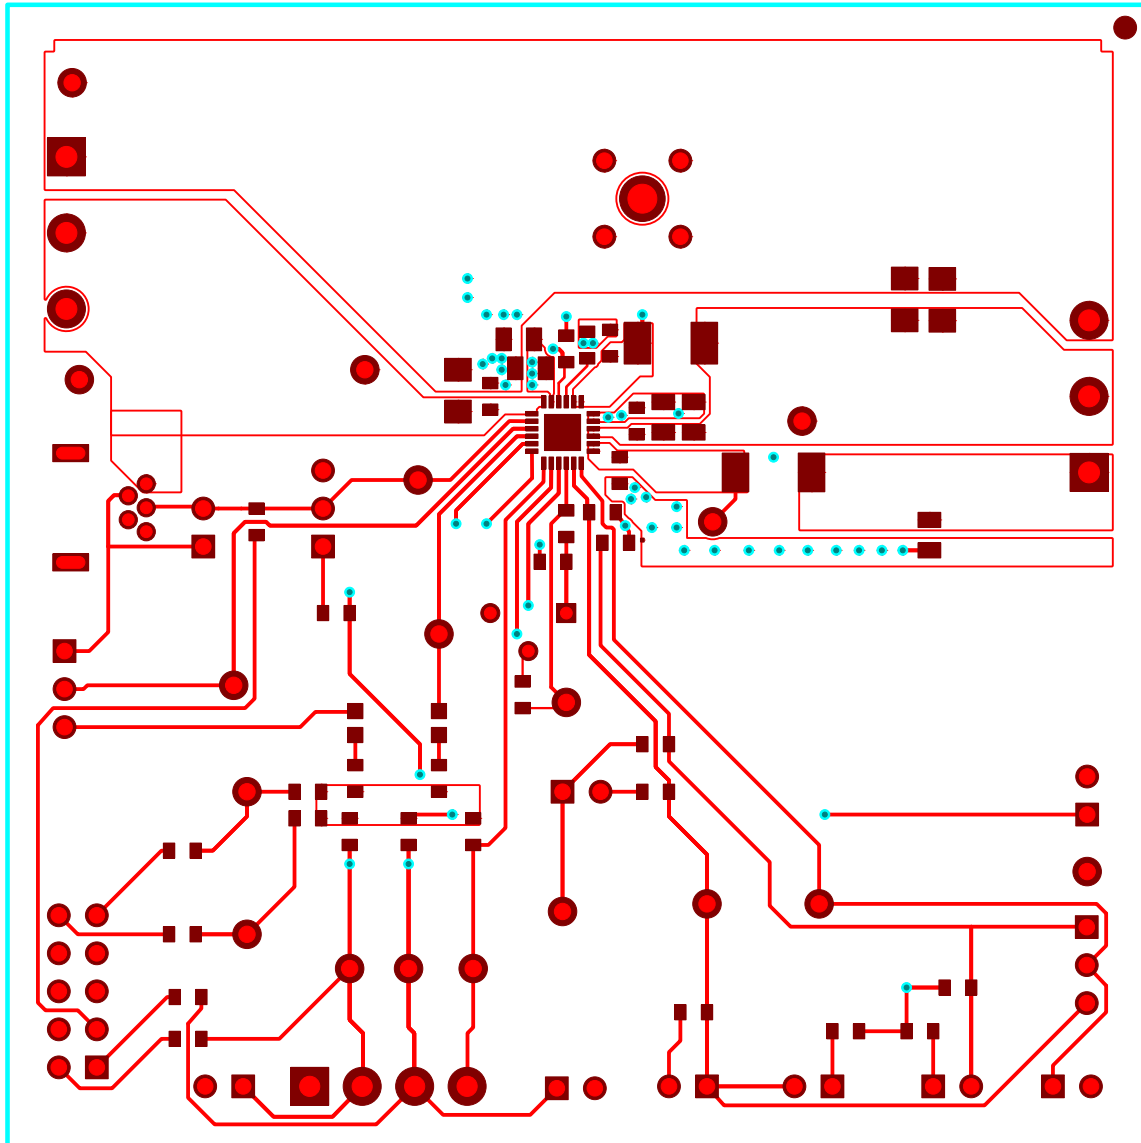
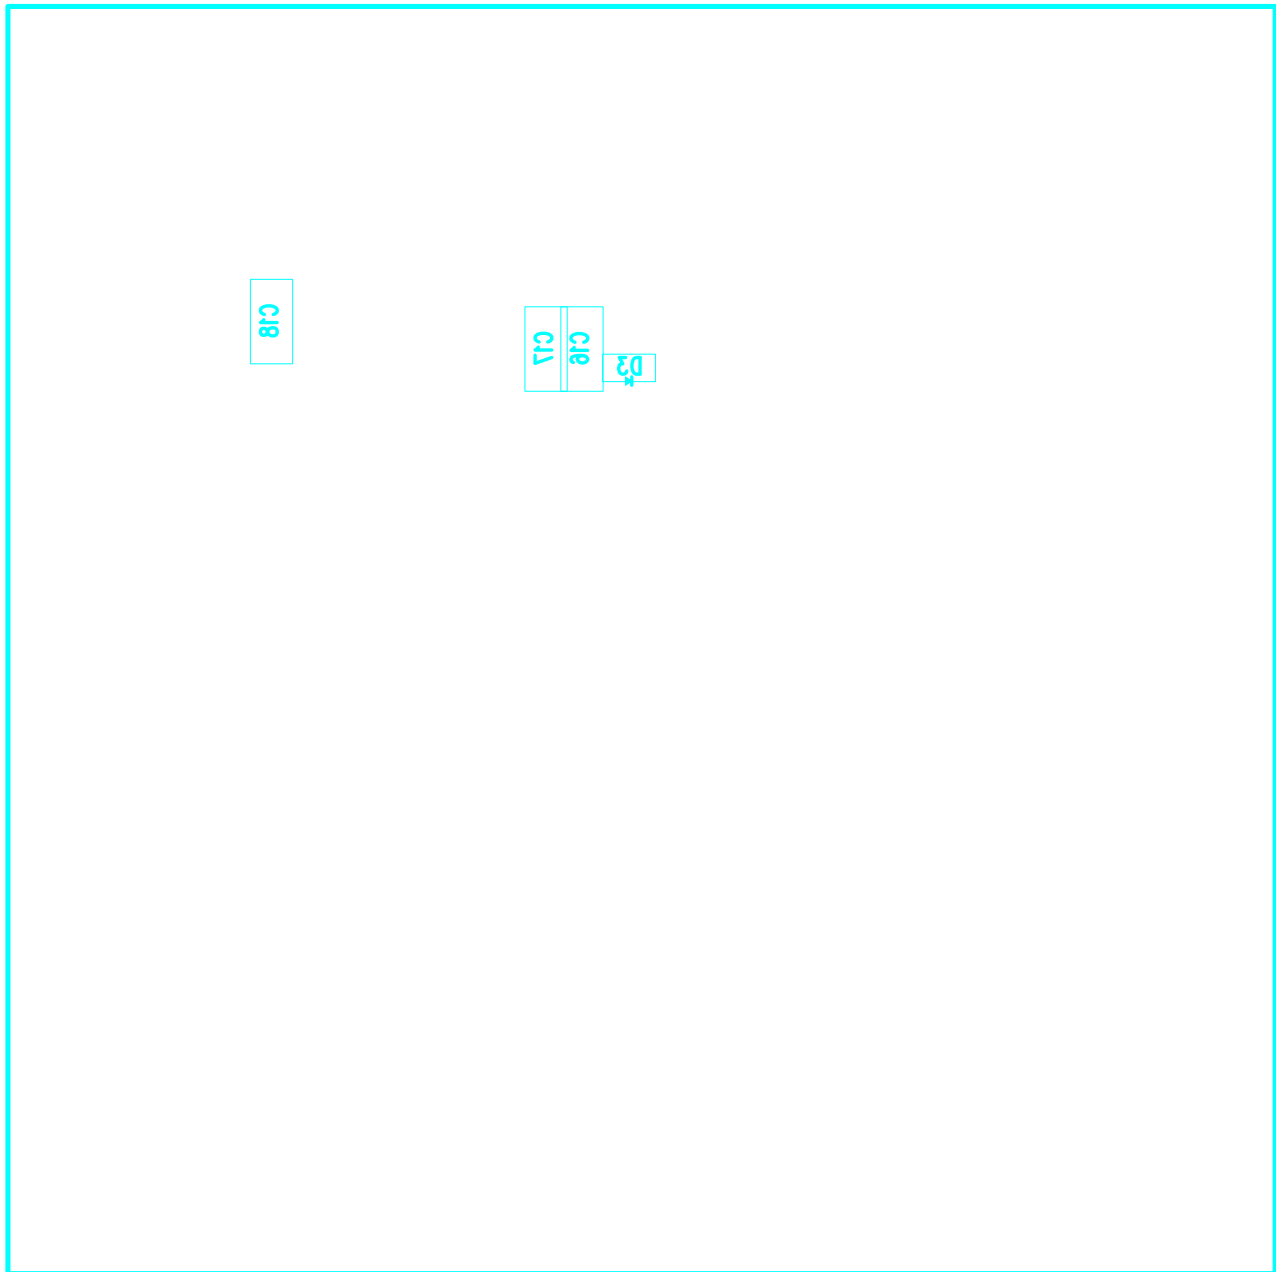

Figure 6. bq2429xEVM Top Layer
Figure 11. bq2429xEVM Bottom Assembly
7. Verify scope measurement (See Figure 6)
Figure 6 through Figure 11 illustrate the board layouts for this EVM.